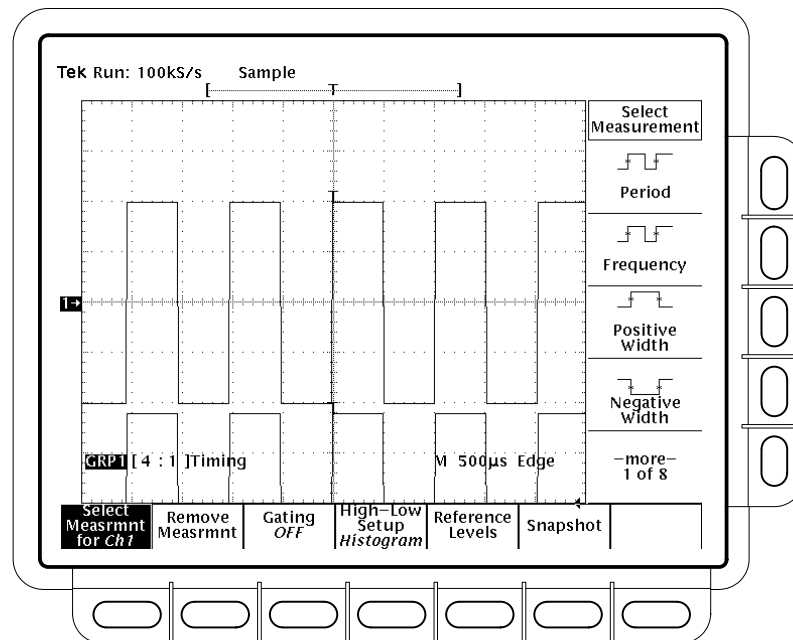

Figure 3-32: Measure Menu
2. Press **MEASURE** → **Select Measrmnt** (main). (See Figure 3-32.)